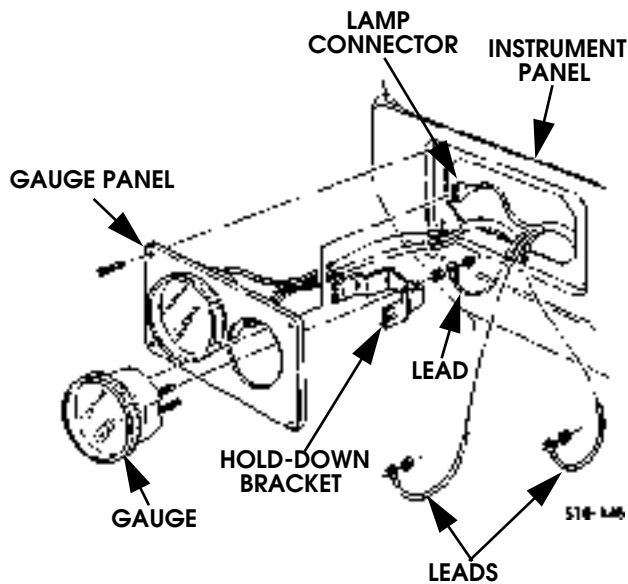

Figure 10-17: Gauge Replacement
1. Remove screws and pull gauge panel away from instrument panel (Figure 10-17).
1. Insert gauge through front of gauge panel (Figure 10-17).